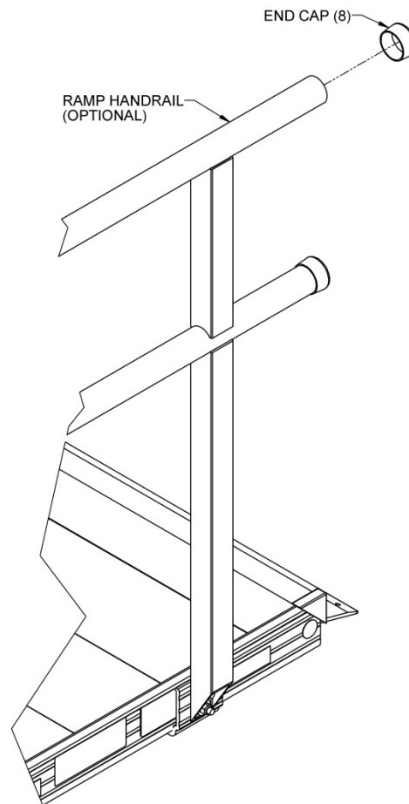

FIG 4
- 3.6. Use the plastic end caps provided on all open ends on the handrails (FIG 4). Push them on by hand or use a rubber mallet. If necessary, use construction adhesive to bond the end cap to the ramp handrail.